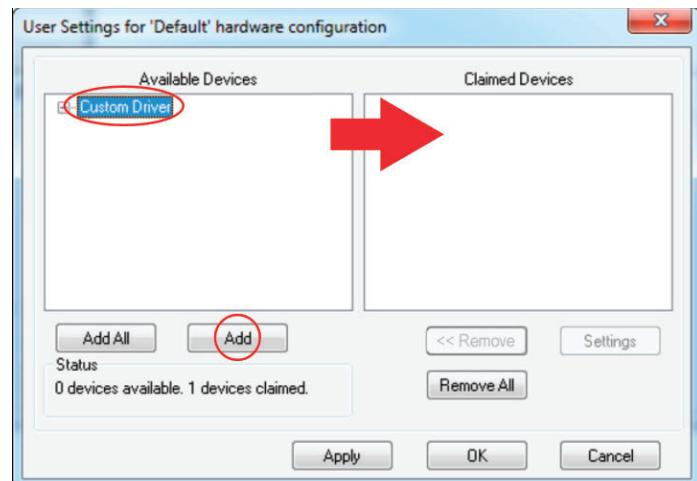

Figure H-16. Add Custom Driver to Devices
12. Select the directory for Custom Driver from the left table, and click Add to include the component, as shown in Figure H-16.